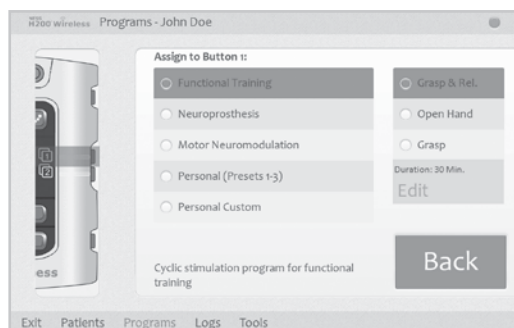

Figure 8-32: Assign to Button 1 Window
2. The Assign to Button 1 window will open. See Figure 8-32.